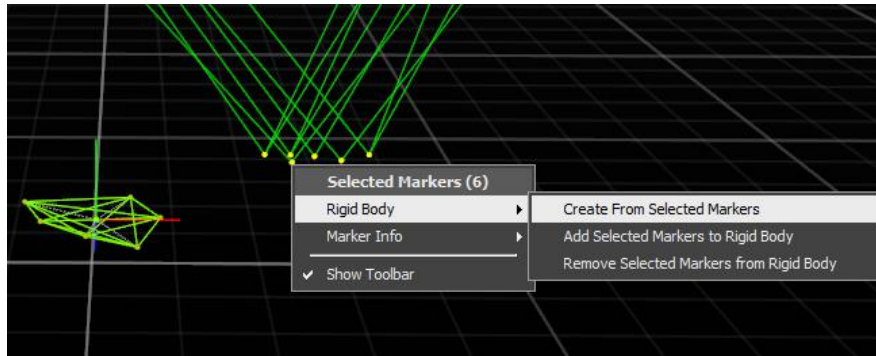

Figure 11. Exporting rigid body to a trackable file
11. For multi-vehicle scenarios, all the vehicles must be defined in a single trackable file (*.tra). After step 4, place the second vehicle in the workspace and define a new rigid body (similar to step 3) (Figure 11).